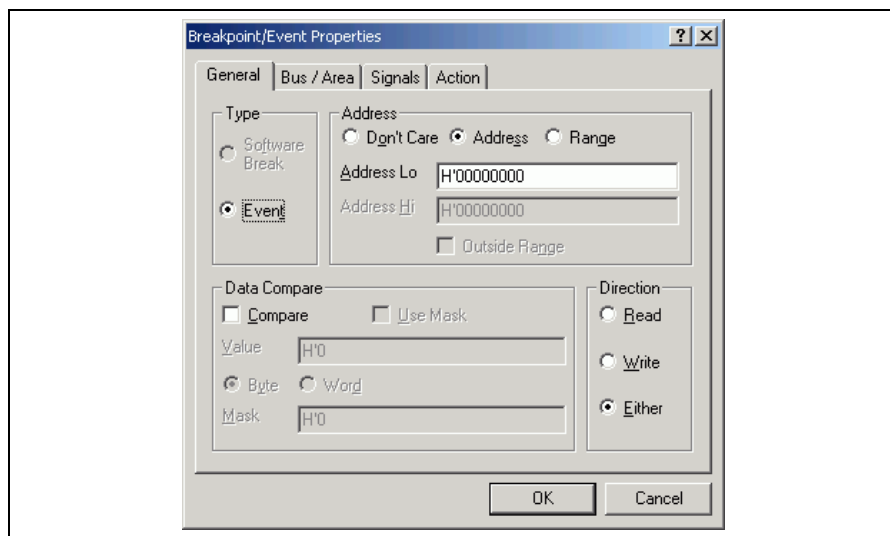

Figure 6.42 [Breakpoint/Event Properties] Dialog Box
- (2) Register the address range for trace acquisition as an event condition. Click the [Add...] button in the [Trace Events] group box on the [General] page to display the [Breakpoint/Event Properties] dialog box (see figure 6.42, [Breakpoint/Event Properties] dialog box).
- (3) Click the [Range] radio button in the [Address] group box on the [General] page of the [Breakpoint/Event Properties] dialog box. Use the [Locals] window to refer to the address on the line where variable a, which is defined within the tutorial function, is allocated (**H'00FFEF80** in this example) and enter this address in the [Address Lo] edit box. Then enter an address, which is H'27 added to that entered in the [Address Lo] edit box (**H'00FFFA7** in this example), in the [Address Hi] edit box. This procedure sets the memory range for variable a of the tutorial function.
- (4) Click the [Write] radio button in the [Direction] group box to set a write cycle for the specified range. This completes the setting of a memory range. Click the [OK] button to close the [Breakpoint/Event Properties] dialog box.